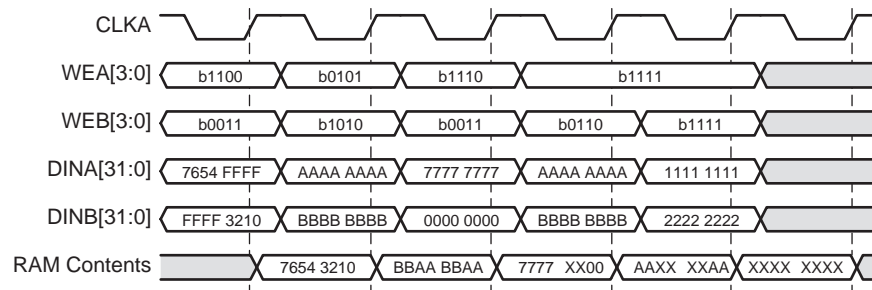

Figure 3-15: Write-Write Collision Example
- Using Byte-Writes:** When using byte-writes, memory contents are not corrupted when separate bytes are written in the same data word. RAM contents are corrupted only when both ports attempt to Write the same byte. Figure 3-15 illustrates this case. Assume $ADDR_A = ADDR_B = 0$.